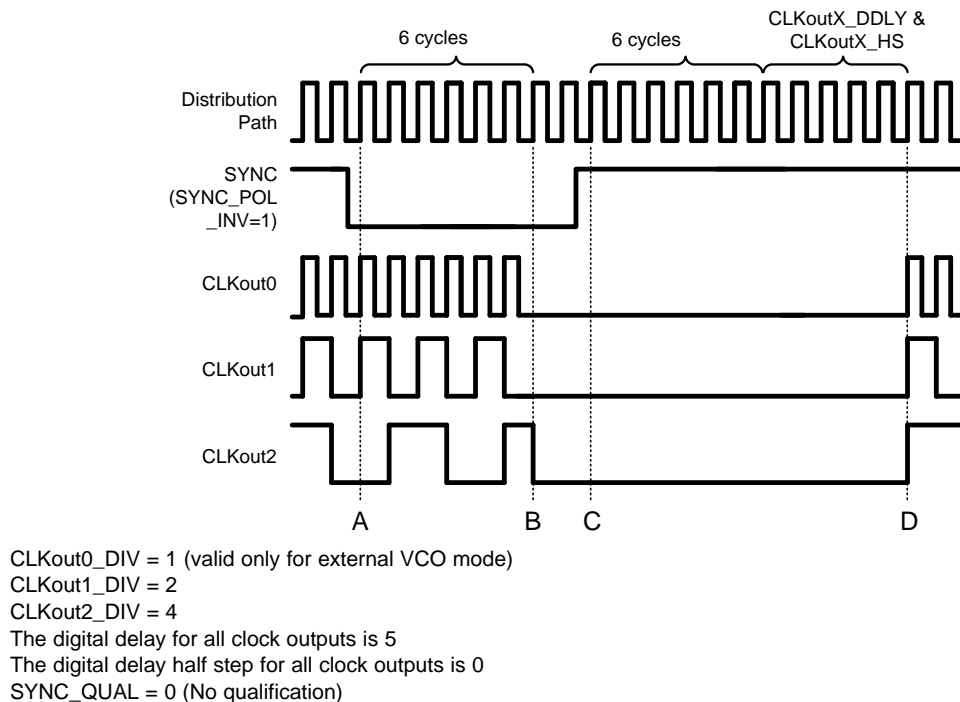
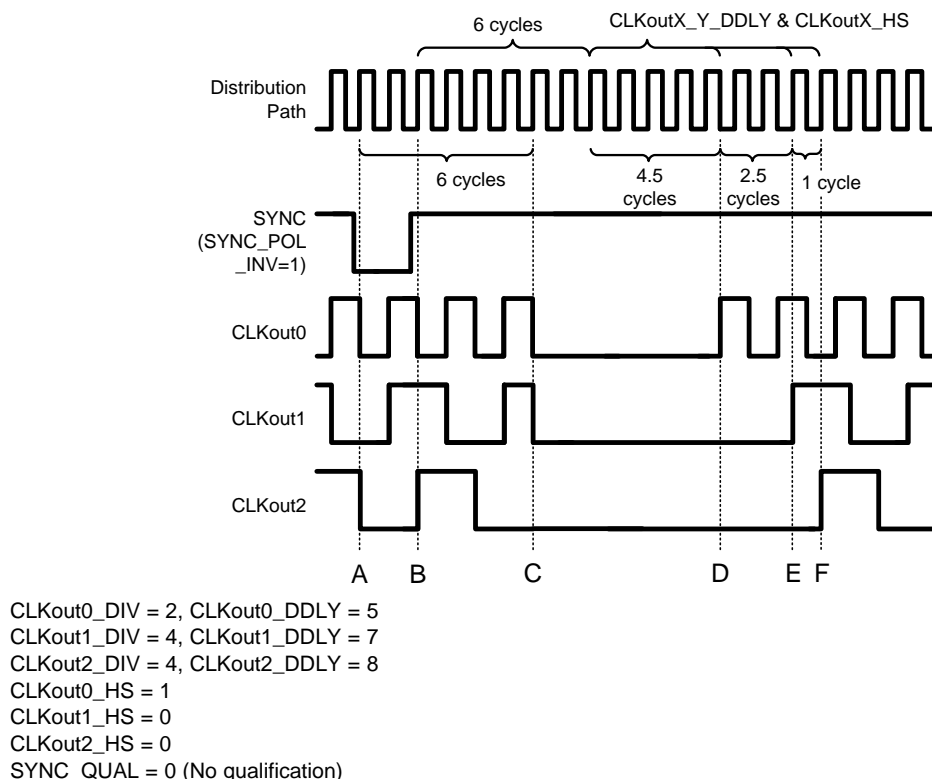

Figure 11. Clock Output Synchronization Using the SYNC Pin (Active Low)
Figure 12. Clock Output Synchronization Using the SYNC Pin (Active Low)
Figure 12 illustrates clock outputs programmed with different digital delay values during a SYNC event.
Refer to Figure 11 during this discussion on the timing of SYNC. SYNC must be asserted for greater than one clock cycle of the clock distribution path to latch the SYNC event. After SYNC is asserted, the SYNC event is latched on the rising edge of the distribution path clock, at time A. After this event has been latched, the outputs will not reflect the low state for 6 cycles, at time B. Due to the asynchronous nature of SYNC with respect to the output clocks, it is possible that a glitch pulse could be created when the clock output goes low from the SYNC event. This is shown by CLKout4 in Figure 11 and CLKout2 in Figure 12. See Relative Dynamic Digital Delay for more information on synchronizing relative to an output clock to eliminate or minimize this glitch pulse.
Figure 12 illustrates the timing with different digital delays programmed.
- For example, see CLKout4 in Figure 11 and CLKout2 in Figure 12.
1. The device is programmed from register R0 to R30 with values that result in the device being locked and operating as desired (see the system requirements above). The phase of all the output clocks are aligned because all the digital delay and half step values were the same when the SYNC was generated by programming register R30. The timing of this is as shown in Figure 11.